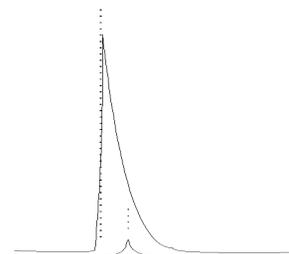

Figure 11. Large Peak versus Small Peak Crest
- ▶ It is likely that retention times will be slightly off. The retention time of a large peak is usually different because the peak crest is displaced from the smaller version of the same peak as shown in Figure 11.